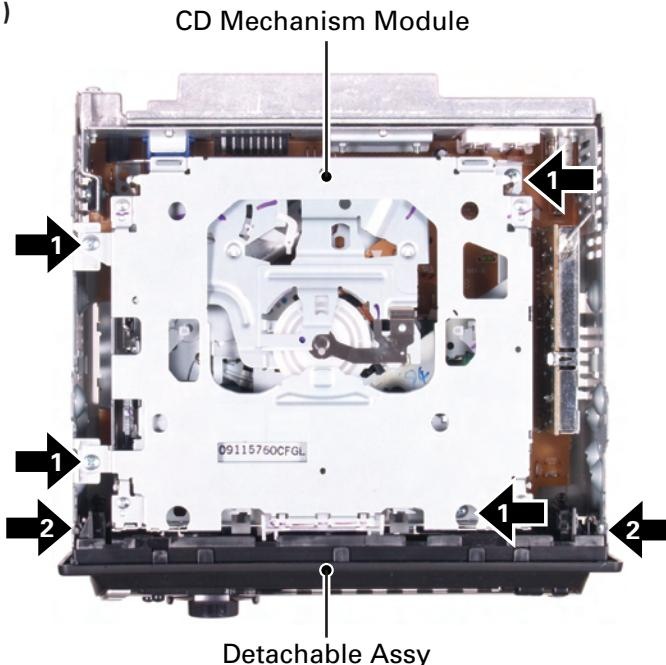

Fig.1
- **Removing the CD Mechanism Module (Fig.1)**
- **Removing the Detachable Assy (Fig.1)**